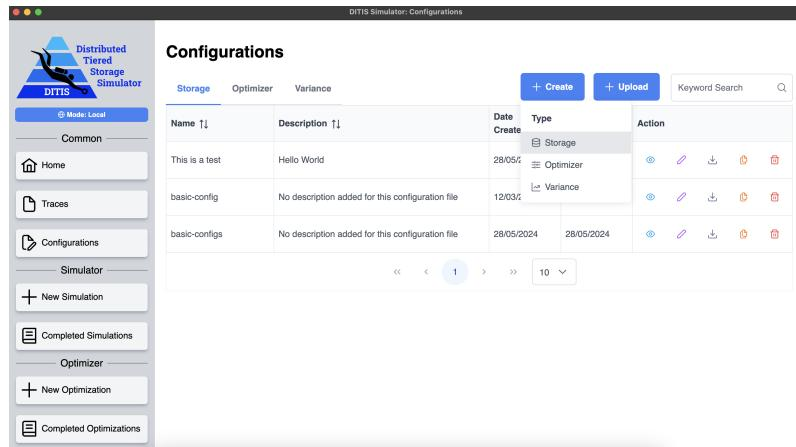

Figure 43: Create Configuration Options
- Select **Variance** from the dropdown as seen in Figure 43.